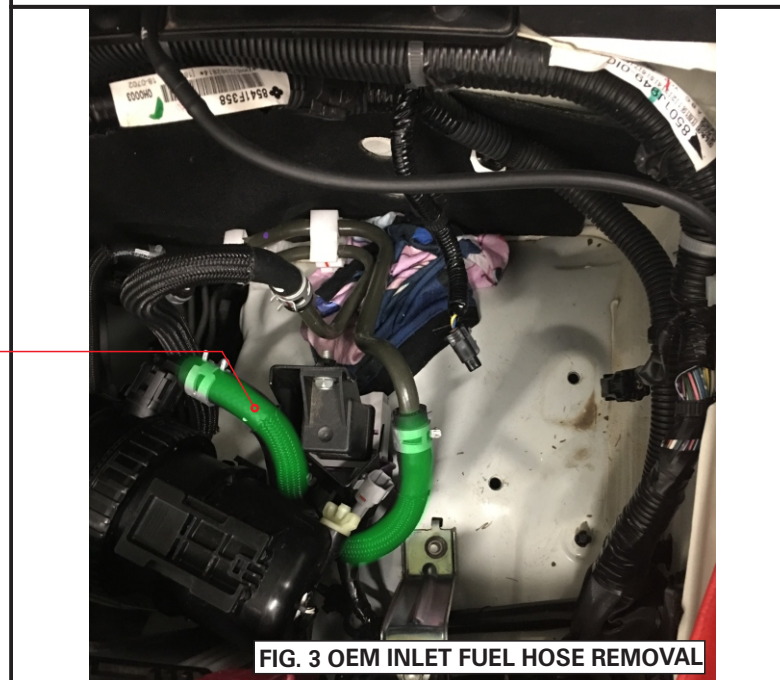

FIG. 3 OEM INLET FUEL HOSE REMOVAL
6. Remove the OEM fuel supply hose & hose clamps (highlighted green in Fig. 3). Have a rag ready as some fuel will spill from the hose and pipe.